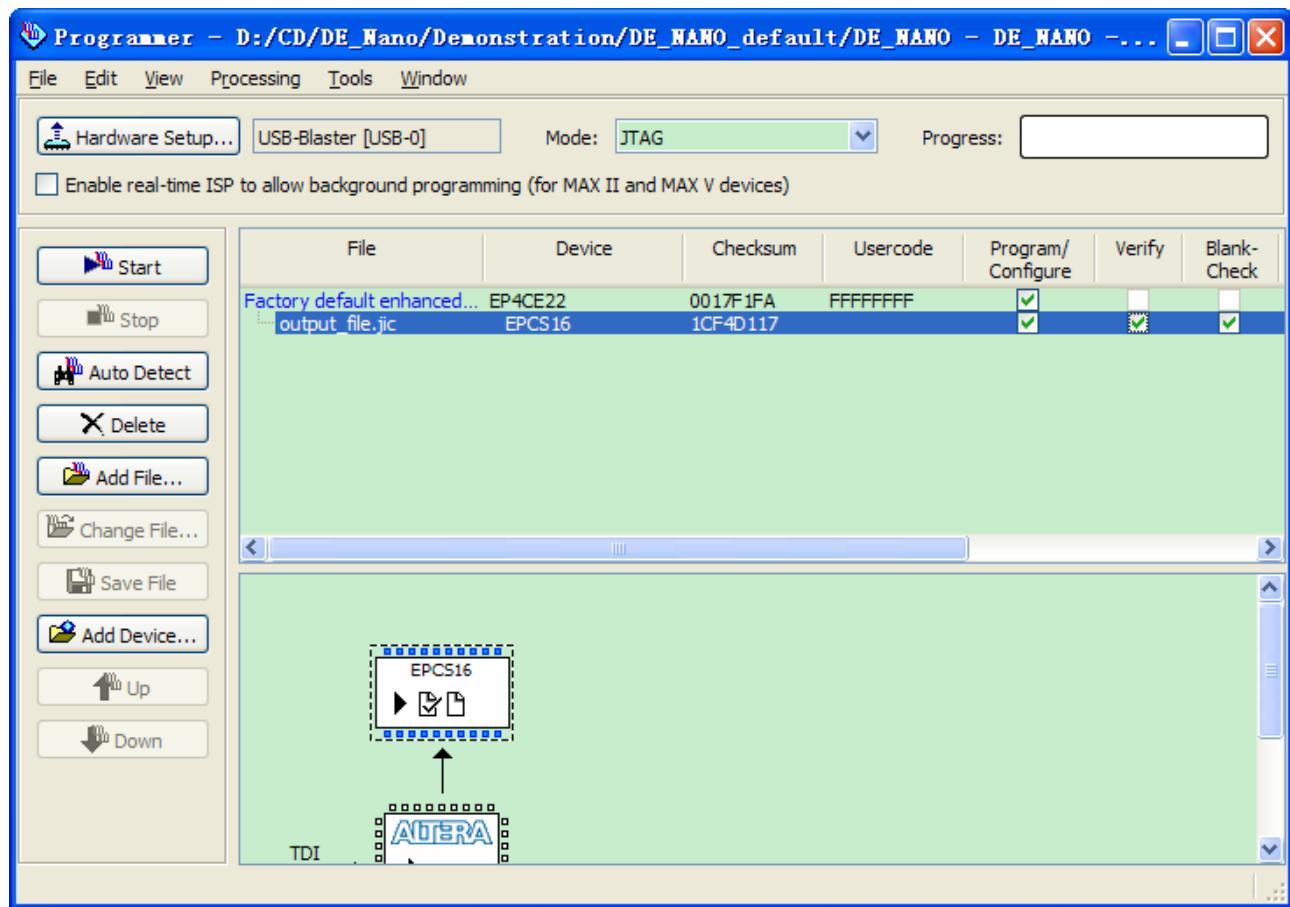

**Figure 9-5 Compression the sof file**
13. Select the .sof file, and Click the **Properties**. Select Compression, click **OK**, as shown in **Figure 9-5**.